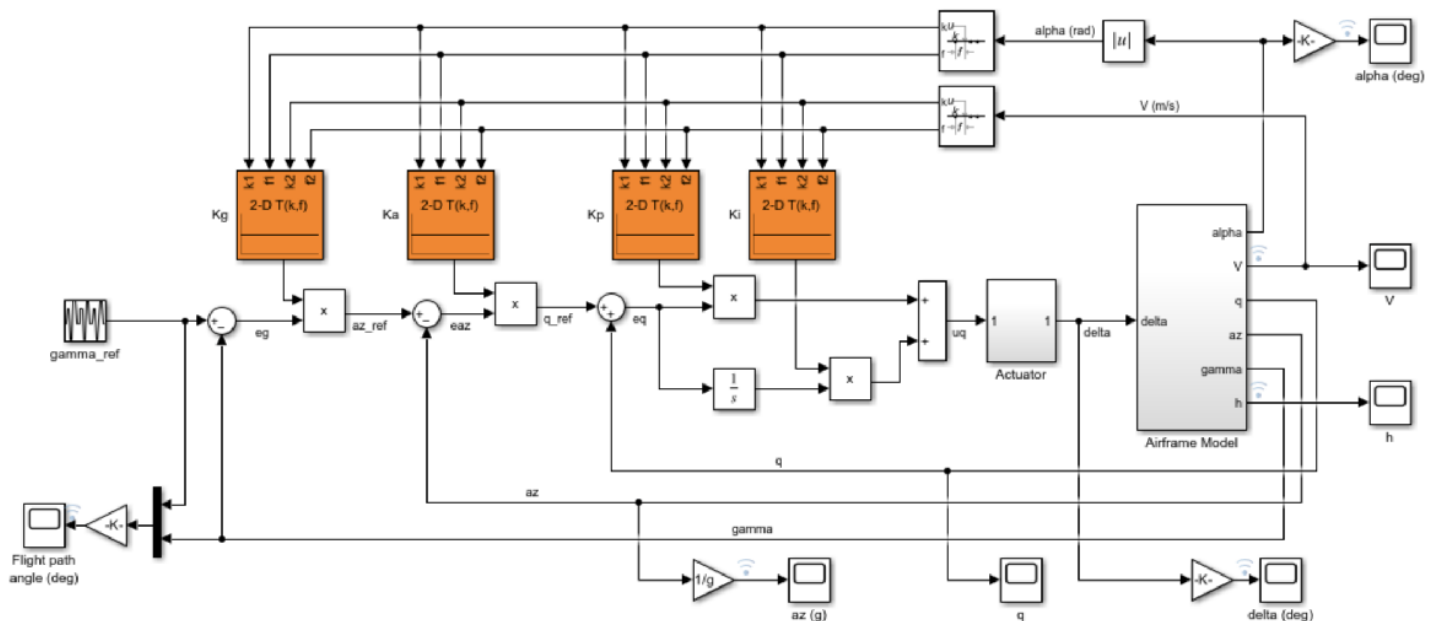

Figure 3. Simulink model of airframe and autopilot.
We use a classic three-loop autopilot structure to control the flight path angle γ . This autopilot adjusts the flight path by delivering adequate bursts of normal acceleration a_z , which is the acceleration along w . In turn, normal acceleration is produced by adjusting the elevator deflection δ to cause pitching and vary the amount of lift. The autopilot uses Proportional-Integral (PI) control in the pitch rate loop q and proportional control in the z_z and γ loops. Figure 3 illustrates the Simulink model of the closed-loop system (airframe and autopilot).